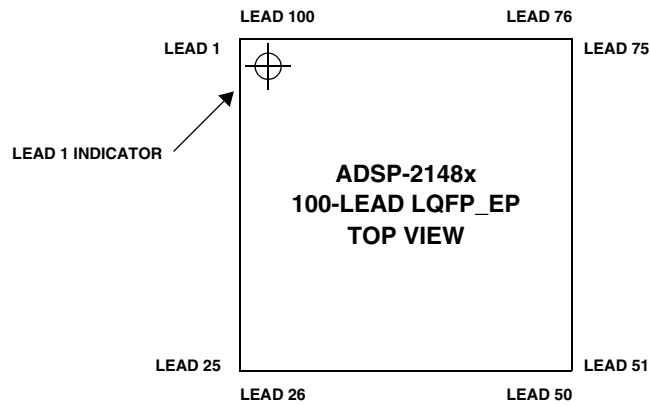
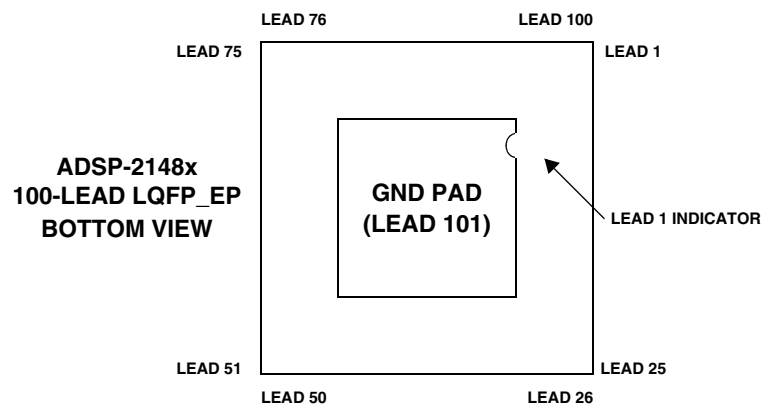

Figure 48. 100-Lead LQFP_EP Lead Configuration (Top View)
Figure 49. 100-Lead LQFP_EP Lead Configuration (Bottom View)
* Pin no. 101 (exposed pad) is the GND supply (see Figure 48 and Figure 49) for the processor; this pad must be **robustly** connected to GND.
Figure 48 shows the top view of the 100-lead LQFP_EP lead configuration. Figure 49 shows the bottom view of the 100-lead LQFP_EP lead configuration.